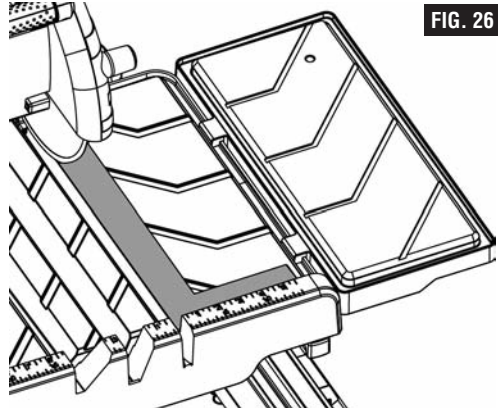

FIG. 26
4. Place a 90° framing square on the working table against the fence (Fig. 26).